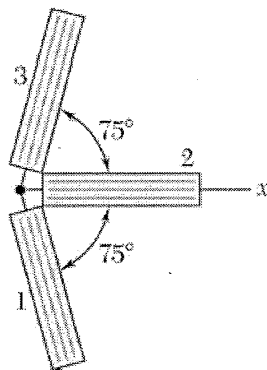

Fig.Q8
- b) The strains determined by the use of a strain gauge rosette as shown in Fig.Q8, attached to the surface of a machine element are $\epsilon_1 = -93.1 \times 10^{-6} \text{ mm/mm}$, $\epsilon_2 = +385 \times 10^{-6} \text{ mm/mm}$ and $\epsilon_3 = +210 \times 10^{-6} \text{ mm/mm}$.